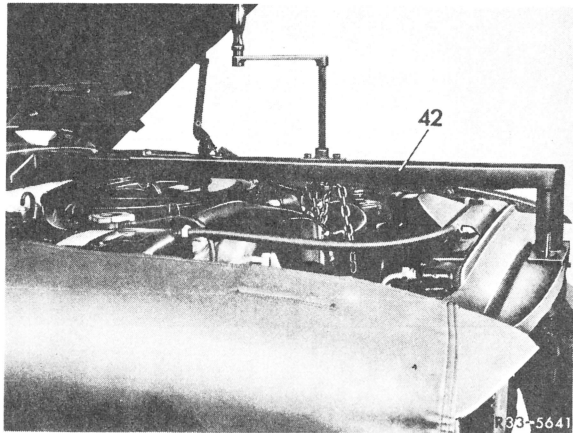

Fig. 3
- 3 Attach suspension fixture (42) for engine (Fig. 3).